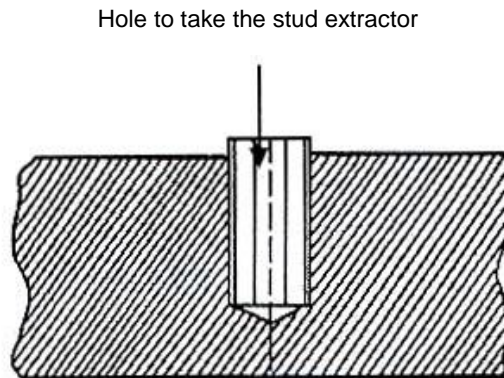

FIG 12.
- C. Drill a hole through the centre of the stud. (Fig 12)